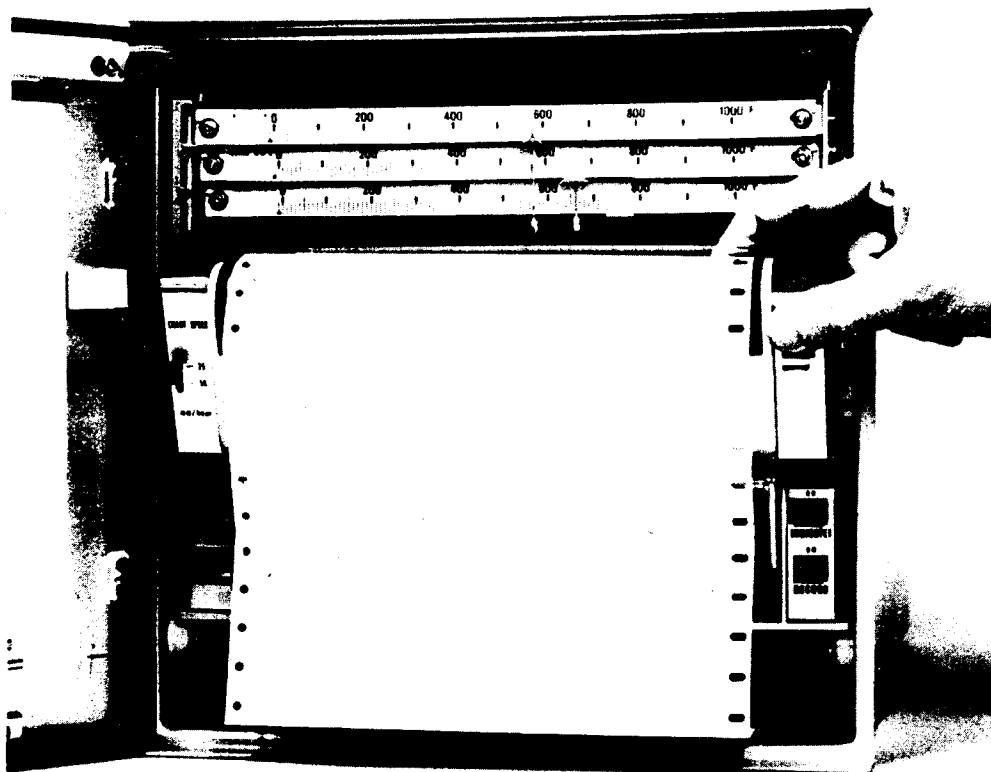

Figure 2-7. Paper Feeding Across Sprocket Teeth
4. Pull the paper forward and feed it across the sprocket teeth. Match the oval holes on the right side of the paper to the sprocket teeth first, then the round holes on the left. See Figure 2-7.